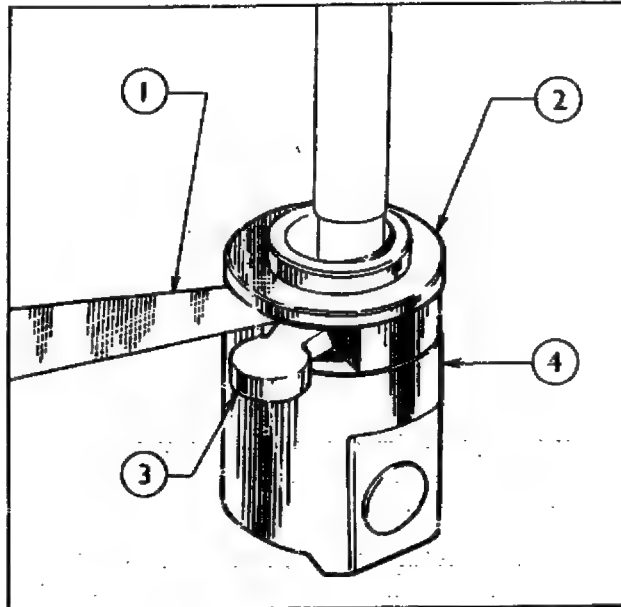

Fig. 28
23. Pass the plungers through the lower spring seats and holding the seats on the tappet assemblies check that the plungers have free vertical movement of 0.05 to 0.2 mm. (0.002 to 0.008 in.) (see Fig. 28).